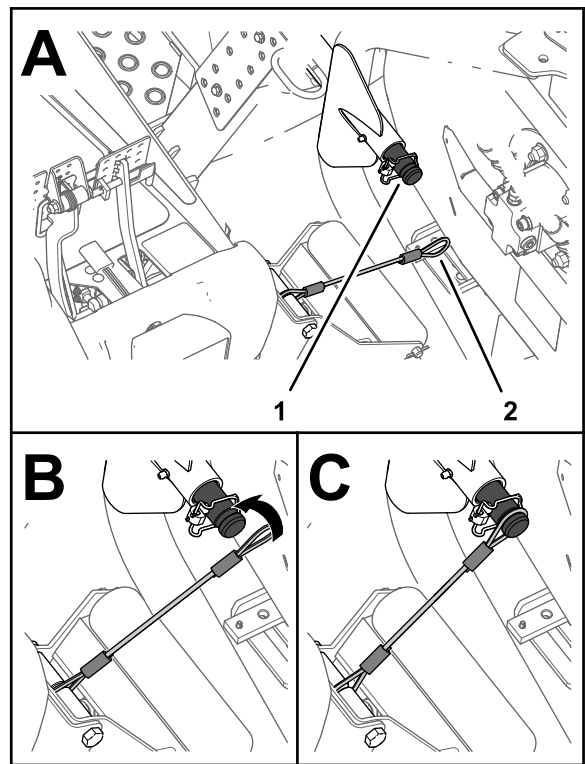

Figure 33
5. Align the lanyard to the carrier shaft of the lift arm for the forward outer-cutting unit (Figure 33).
6. Slip the loop in the lanyard over the carrier shaft until the lanyard is fully seated in the groove in the shaft (Figure 33).